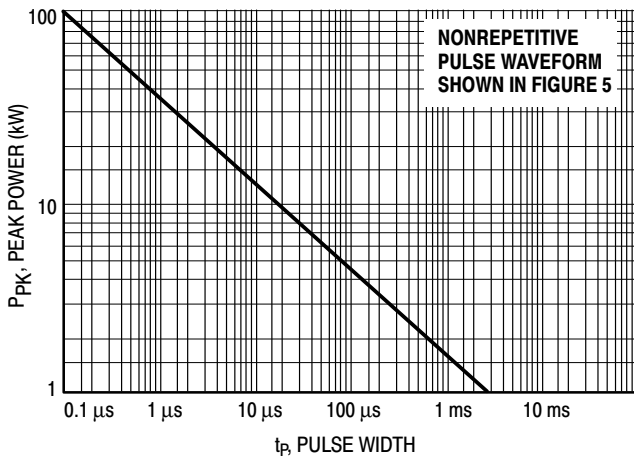
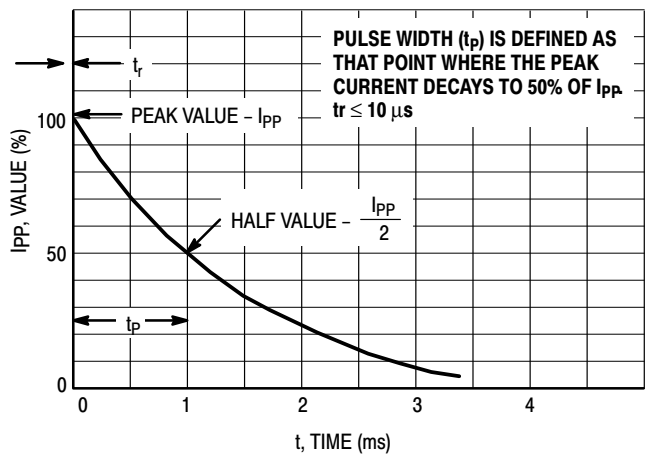
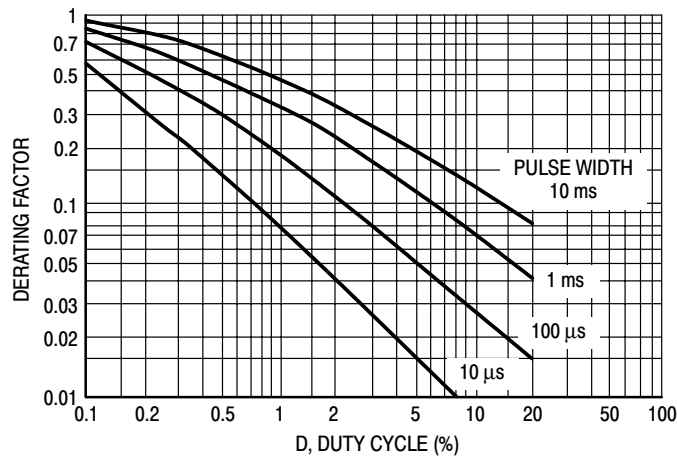

Figure 1. Pulse Rating Curve
Figure 5. Pulse Waveform
Figure 7. Typical Derating Factor for Duty Cycle
- Surge current waveform per Figure 5 and derate per Figures 1 and 2.
The data of Figure 1 applies for non-repetitive conditions and at a lead temperature of 25°C. If the duty cycle increases, the peak power must be reduced as indicated by the curves of Figure 7. Average power must be derated as the lead or
At first glance the derating curves of Figure 7 appear to be in error as the 10 ms pulse has a higher derating factor than
the 10  $\mu$ s pulse. However, when the derating factor for a given pulse of Figure 7 is multiplied by the peak power value of Figure 1 for the same pulse, the results follow the expected trend.